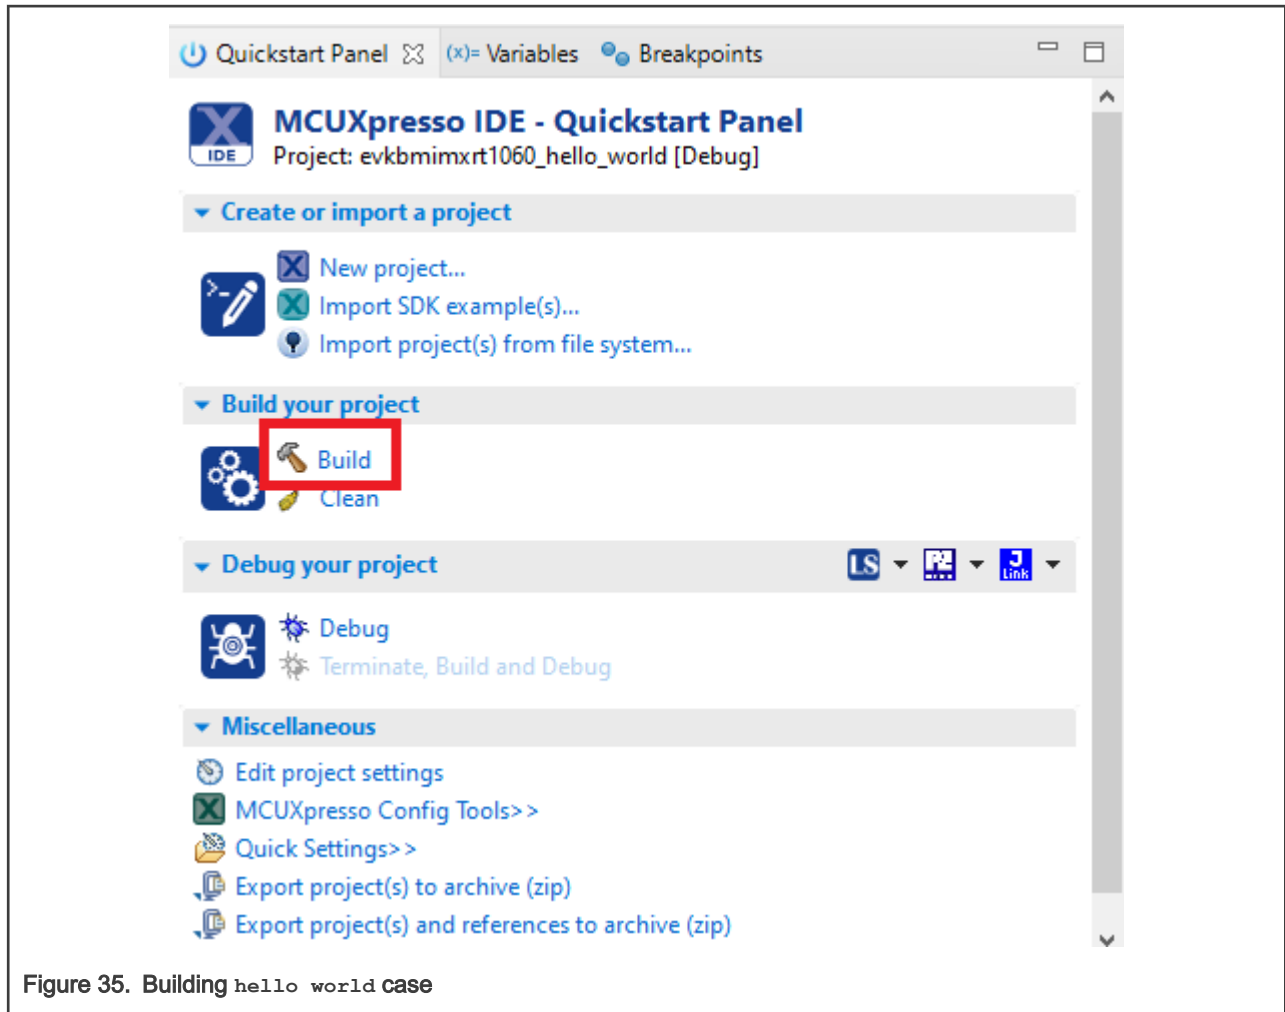

Figure 35. Building hello world case
- On the **Quickstart** panel, click **build evkbmimxrt1060_demo_apps_hello_world [Debug]** , as shown in Figure 35.